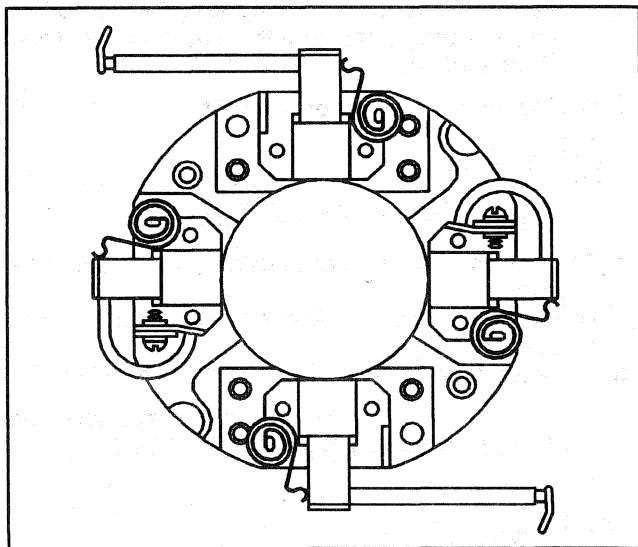

Figure 16—Springs and Brushes on the Brush Holder
- Refer to Figure 16 for proper installed position of all brushes. Make sure the insulated brushes go into the brush sockets of the brush holder assembly that mounts on the insulation.
- Gradually release the spring so that its end contacts the side (not end) of the brush (Figure 16). This will hold the brushes retracted until after the brush holder is installed over the armature commutator.
- Position the terminals of the grounded brush leads behind the terminal tabs on the brush holder (Figure 16).